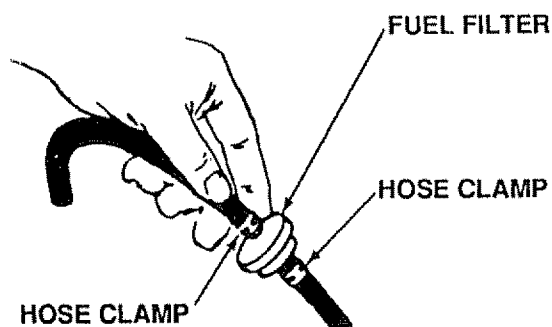

FIGURE 26
- a. With engine cool, remove filter and plug fuel line sections that were removed from both ends of fuel filter (Fig. 26).